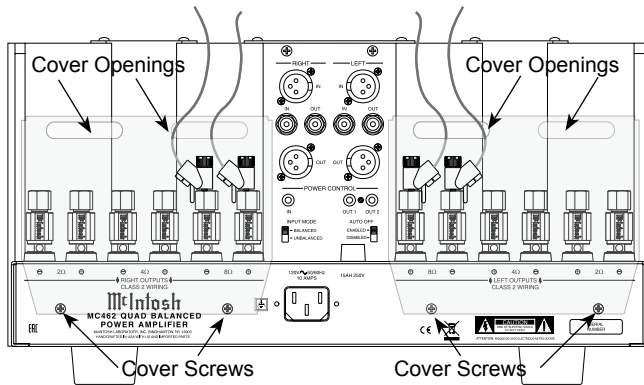

Figure 5 (Inside USA and Canada)
5. Locate the Terminal Connection Covers from the inside of the MC462 shipping carton. Insert the just prepared Loudspeaker hookup cables thru the cover openings, one cover for each channel. Refer to figure 5.
Note: The illustration in figure 5 is connections for 8Ω (ohms) Loudspeakers.
9. Attach the Terminal Connection Covers to the MC462 Rear Panel with the previously removed Screws. Refer to figure 5.